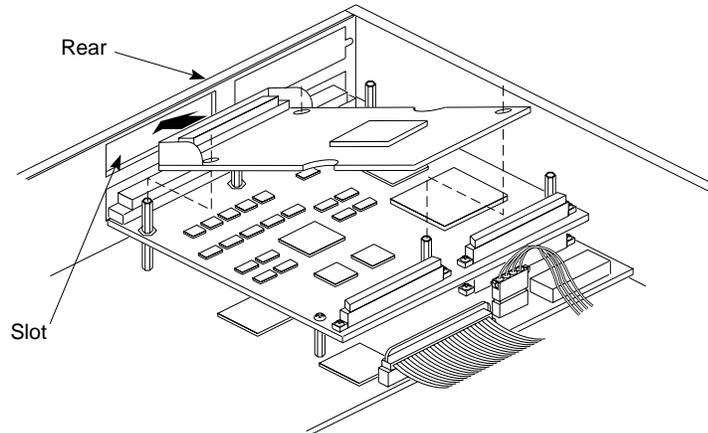

Figure 5-3 Inserting the GIO Board's I/O Connector Through the Backplane
7. Lower the GIO option board over the IOPLUS board, inserting the GIO board's I/O connector through the open slot on the rear of the server, as shown in Figure 5-3.